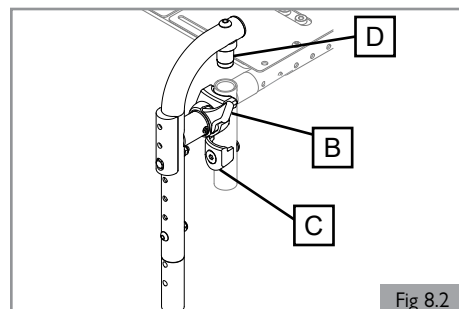

Fig. 8.2
8.2 Repose-pieds pivotants (Fig. 8.2)